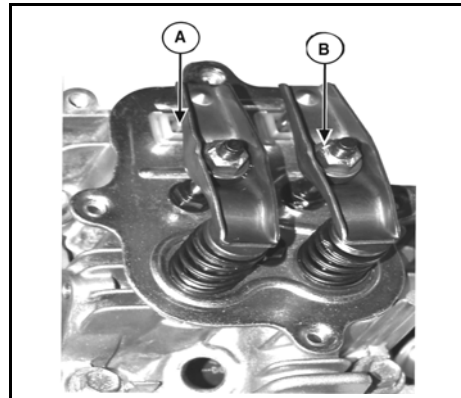

Figure 21
1. Loosen rocker arm screws and/or lock nuts, and remove from rocker arm studs. Remove rocker arms and rocker balls from studs (A, Figure 21).